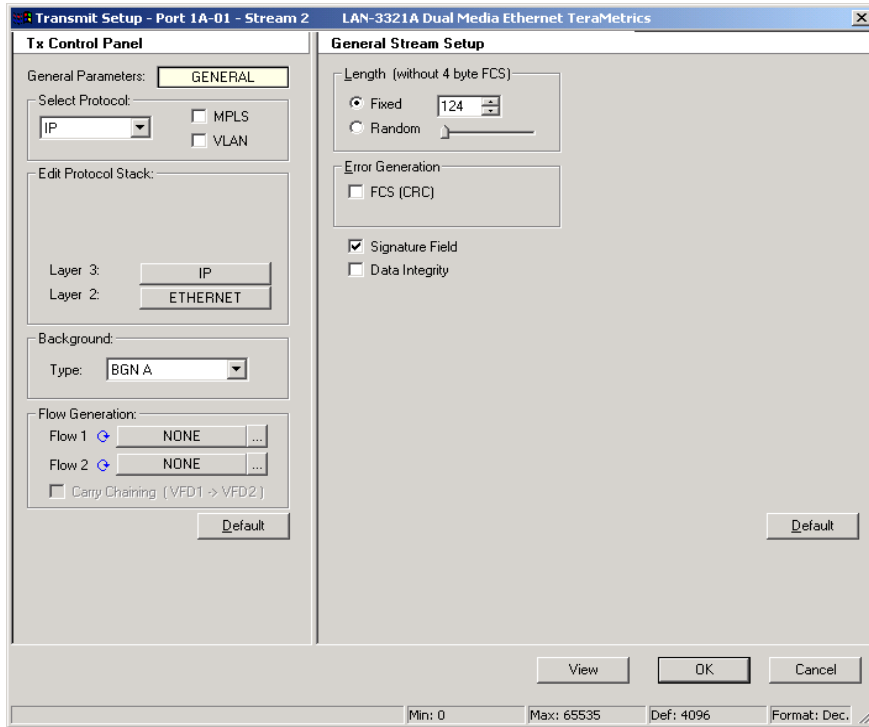

Figure 7-15. Transmit Setup Window: General Stream Setup
- 5 The *Transmit Setup* dialog box is displayed. It contains two panes that are used to configure different aspects of the stream. (Refer to *Figure 7-15 on page 261* for an illustration of this dialog box.)